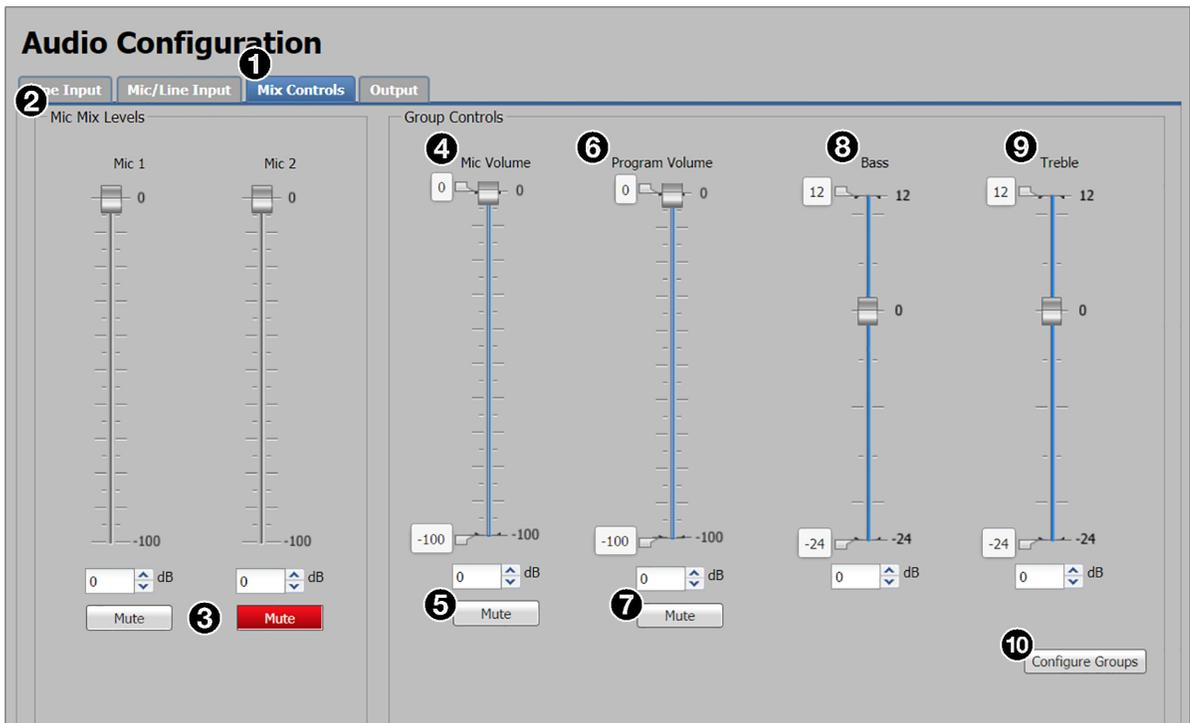

Figure 67. Mix Controls Tab
1. Click the **Mic/Line Input** tab (see figure 67, **1**, on the previous page).
4. If the mic/line input is muted (the **Mute** button is red when the audio is muted), click the **Mute** button (see **figure 67**, **11**), on page 106) to unmute the mic/line input.
4. In the **Hold Time** field (see figure 67, **6** on page 106), adjust the value by one of the following methods: